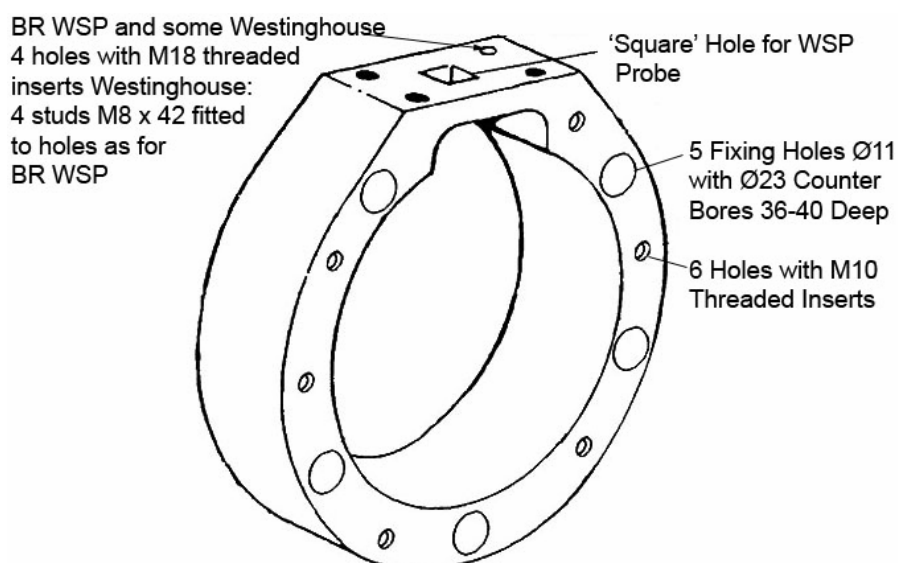

Figure 2: Revised Design – Aluminium to Drawing B1-A0-9001022
2. Clean and degrease all threads, holes and sealing faces (see Figure 2).
1. Renew with item to revised design. See Figure 2.